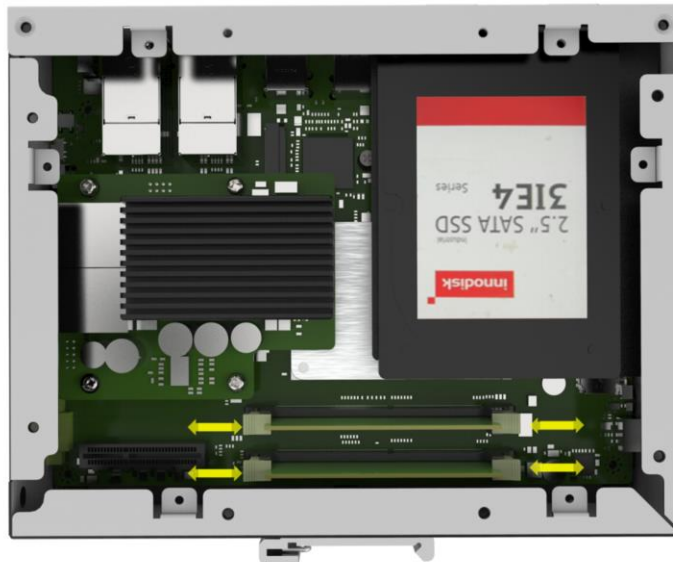

Figure 3-3: Memory Installation
- Step 3:** Once aligned, press down until the memory module is properly seated and the two handles fully clip into place (**Figure 3-3**).